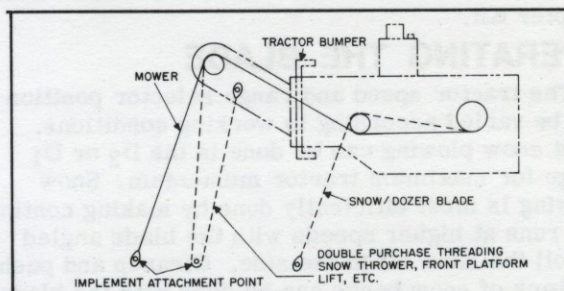

Figure 4
5. Thread lift strap over rear roller and attach to lift clevis. See Fig. 4.